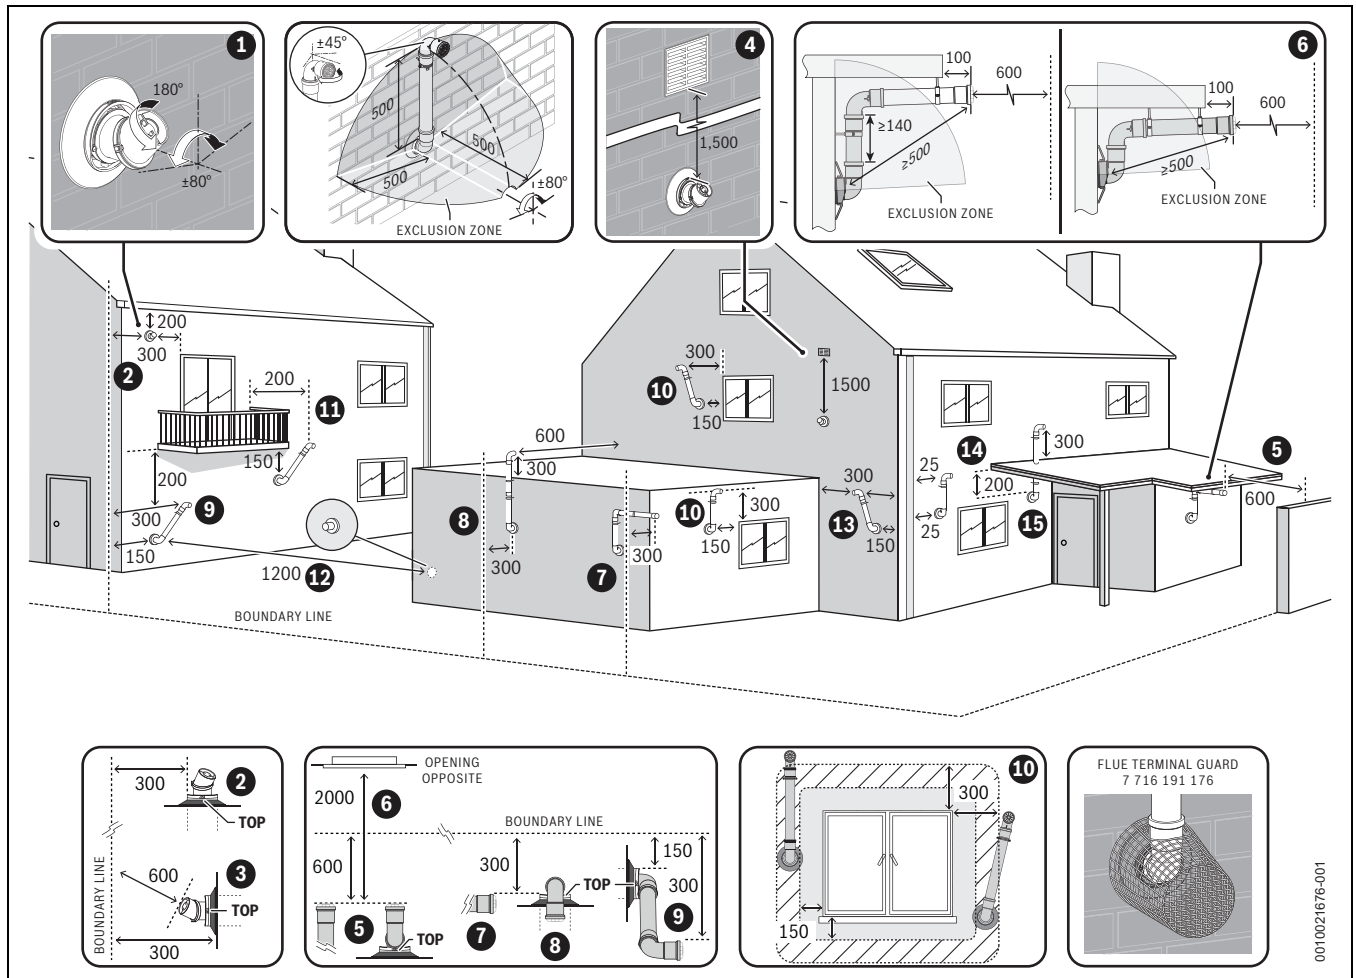

Fig. 30 Plume re-direct and plume management terminal positions
- ▶ Refer to “Horizontal flue terminal positions” for all concentric flue terminal positions unless the flue position is specified in figure 30 “Plume re-direct and plume management terminal positions”.
Key to figure 30**- Plume re-direct terminal positions:**
Key to figure 30**- Plume management terminal positions:**